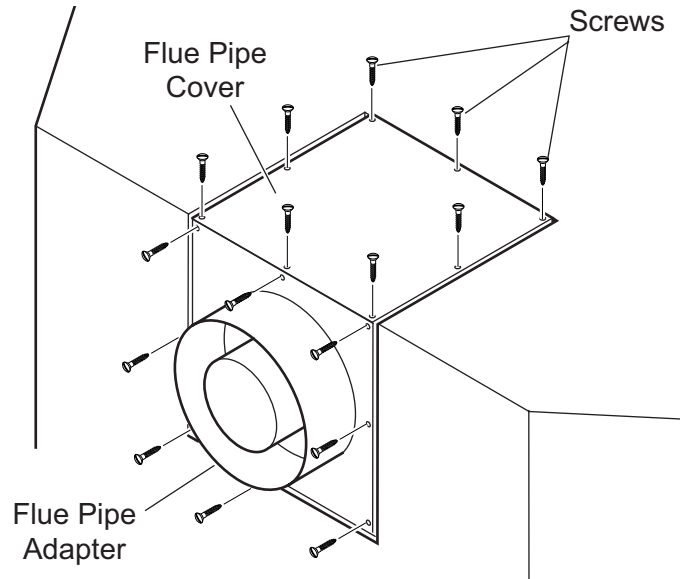

Figure 9 - Removing sixteen (16) Screws from Flue Pipe Adapter and Flue Pipe Cover
1. Remove the eight (8) screws securing the flue pipe adapter to the fireplace body. *See Figure 9.*
3. Remove the six (6) screws securing the flue pipe cover to the top of the intake box and remove the cover and gasket. *See Figure 9.*